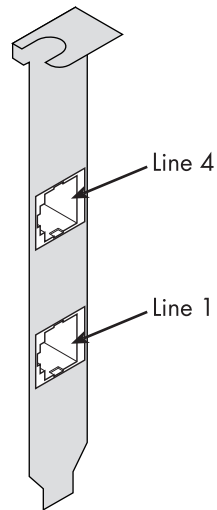

Figure 4. DialFire BRL connectors
9. Connect the telephone line(s) to the adapter (see figure 4 for connector locations). Adapter installation is complete. Refer to Chapter 4, “Driver installation and configuration”.